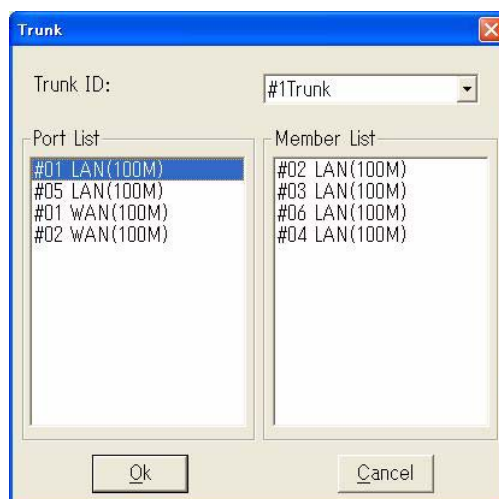

Fig. 4-4-66 Modifying Trunk Window
- 6 If need to modify a trunk port, select the trunk port and click modify button. **Fig. 4-4-66** appears: